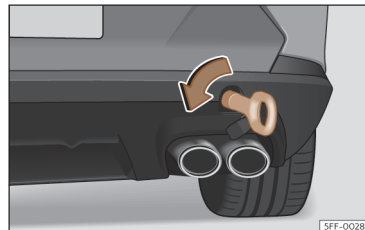

Fig. 204 Right side of the rear bumper: towline anchorage screwed in.
- Screw the towing eye in the housing by turning it to the maximum **anticlockwise** >>> Fig. 204 , >>> ⓘ. Use a suitable object that can completely and securely tighten the towing eye in its housing.